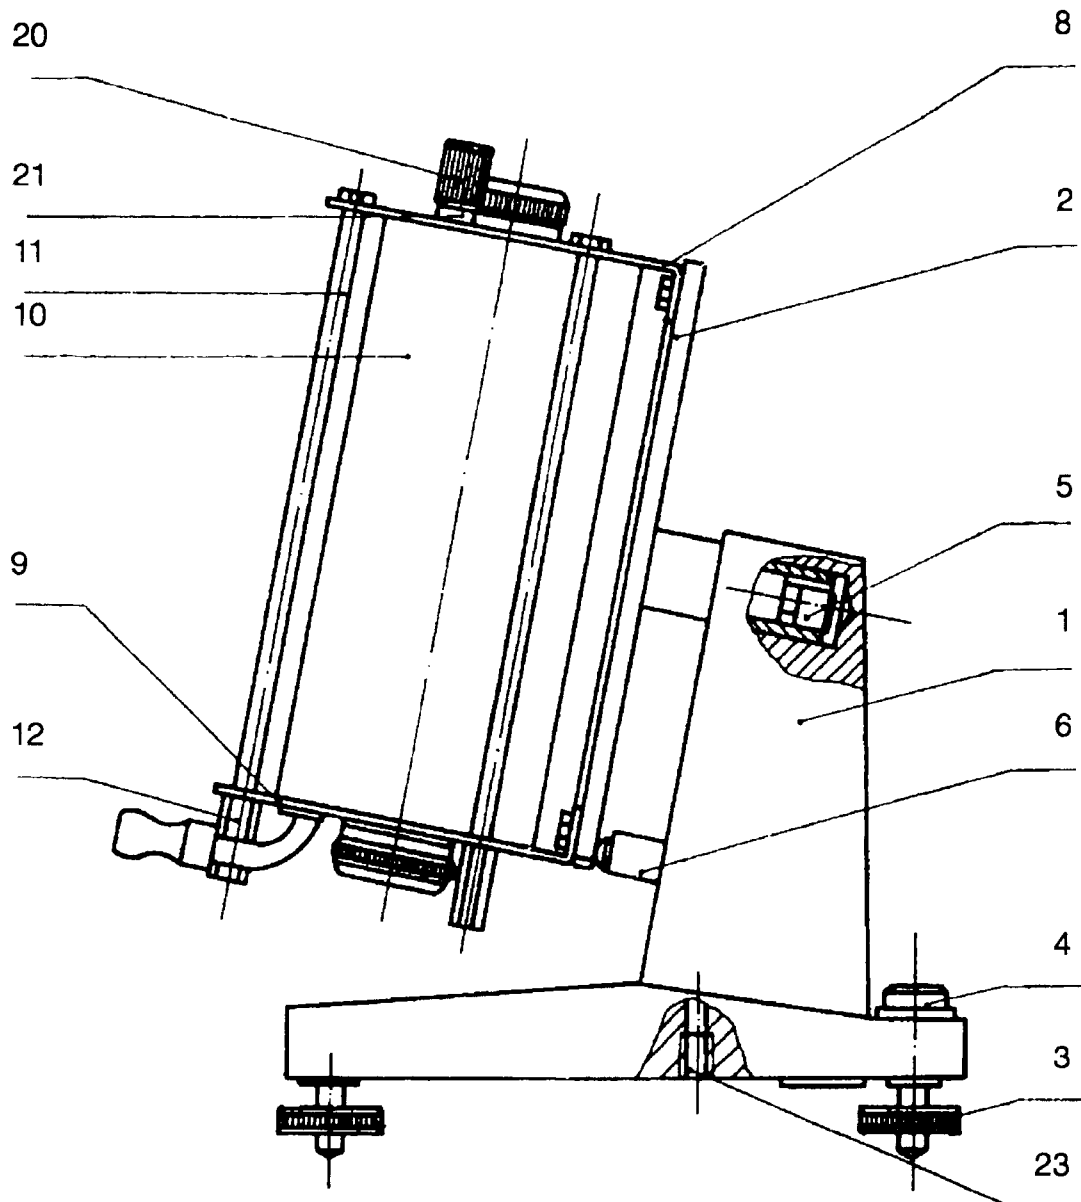
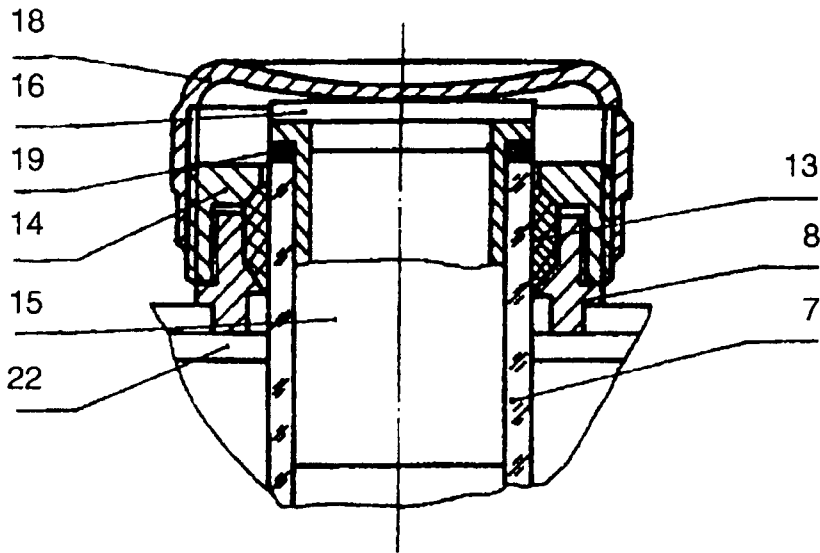
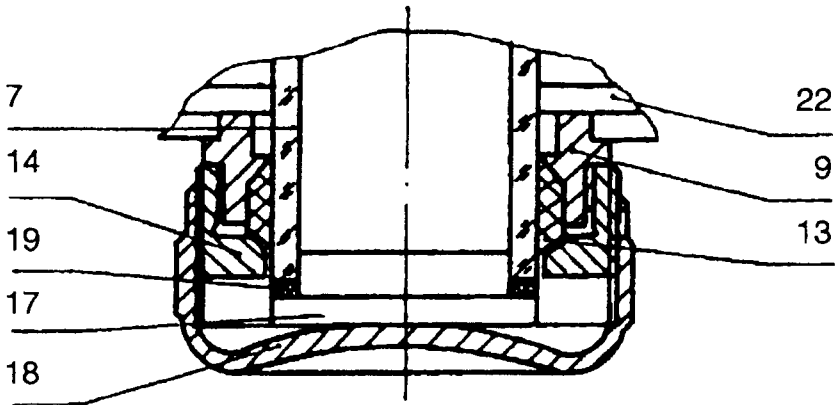

Figure 2 HÖPPLER® KF 3.2
Figure 3 Fall tube screw union to top plate, complete
Figure 4 Fall tube screw union to bottom plate, complete
Viscometer HÖPPLER KF® 3.2 (c.f. Figure 2) comprises two main sub units, viz base (1) and viscometer (2). The base features three adjusting screws (3) for horizontal alignment of viscometer to complete water level (4). The viscometer is inclined by 10 deg with respect to the vertical plane. Supporting pin (5) in the base permits to swing the viscometer optionally into either of both measuring positions. A locking device engaging automatically in either measuring position secures the viscometer. A fitting key at the height of the supporting pin prevents slipping of the viscometer from the base. Water bath jacket (10) fitted between complete top plate (8) and complete bottom plate (9) encloses fall tube (7) in the viscometer. Rubber rings (22) prevent leakage of the temperature control liquid. A detachable joint comprising connecting rod (11) and nut (12) outside the water bath warrants interchangeability of the water bath jacket. The fall tube is fastened in the top plate (c.f. Figure 3) and bottom plate (of Figure 4) by means of rubber packings (13) and fall tube screw unions (14). Two threaded pins M 2 x 4 prevent accidental loosening of the fall tube screw union.
Close fall tube at bottom plate by means of stopper I and sealing cap (c.f. Figure 4) pressing against top plate of fall tube to prevent its axial displacement. Fill low viscosity liquids through a glass filter tube G 3 into the fall tube. Keep duly in mind that the bigger balls will respond strongly to impurities. Fill in liquid up to about 25 mm below fall tube top rim and introduce the required ball using the ball pincette included into the scope of delivery. Push ball downwards using the glass rod if air bubbles are found below the ball. Close fall tube by means of stopper II and cover (c.f. Figure 3). Tighten uniformly both sealing caps under slight pressure. Use set of metal stoppers with any liquids to which rubber is not resistant. Otherwise, it would be advantageous to use the rubber stoppers consisting of Perbunan resistant to temperature and to gasoline or benzene. Liquids being filled in must be free from combined gases that will produce troublesome gas bubbles with increasing measuring temperatures. In most instances, it will suffice to heat the liquid to be investigated briefly up to about 10 K above the maximum expected measuring temperature and to fill it into the fall tube while it is hot. If notwithstanding such procedure air bubbles are found below the ball after the liquid has been filled in, expel them striking gently against the top sealing cap and discharge them with stopper II through the capillary. Begin investigation only after such precautionary measures. Duly observe and follow any regulations concerning protection of laboratory relating to the substance subject to measurement.